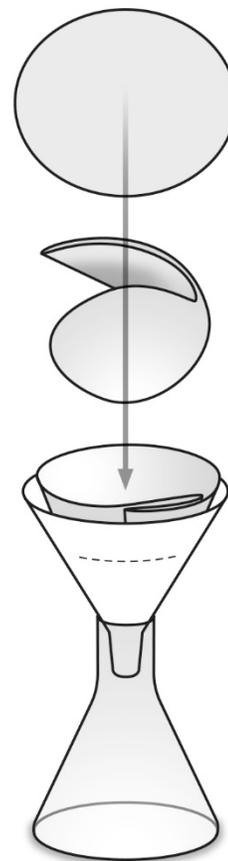

Figure 1: Flask filter
1. Fold a coffee filter in half and then in half again to form a cone as shown at the top of Figure 1.
2. Place coffee filter in the funnel and set the funnel inside the flask as shown in Figure 1. Allow the edges of the filter to extend outside the funnel while the middle of the filter is centered over the funnel opening.
6. After 20 minutes, slowly *decant* or pour the separated water from the beaker into the funnel without disturbing the sediment at the bottom. Hold the funnel steady while pouring. Avoid overfilling the funnel by staying well below the top of the funnel as indicated by the dotted line in Figure 1. Stop when you have collected about 100 mL of filtered water.
5. After 20 minutes, set up a clean coffee filter in the rinsed funnel and flask as shown in Figure 1. Carefully filter the sample to collect 100 mL of filtered water as directed in Part 2, Step 6.